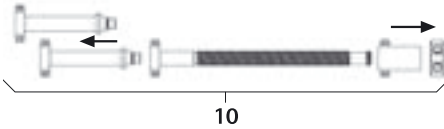

Fig. 5
- Dismount spindle distractor 10, see Fig. 5.